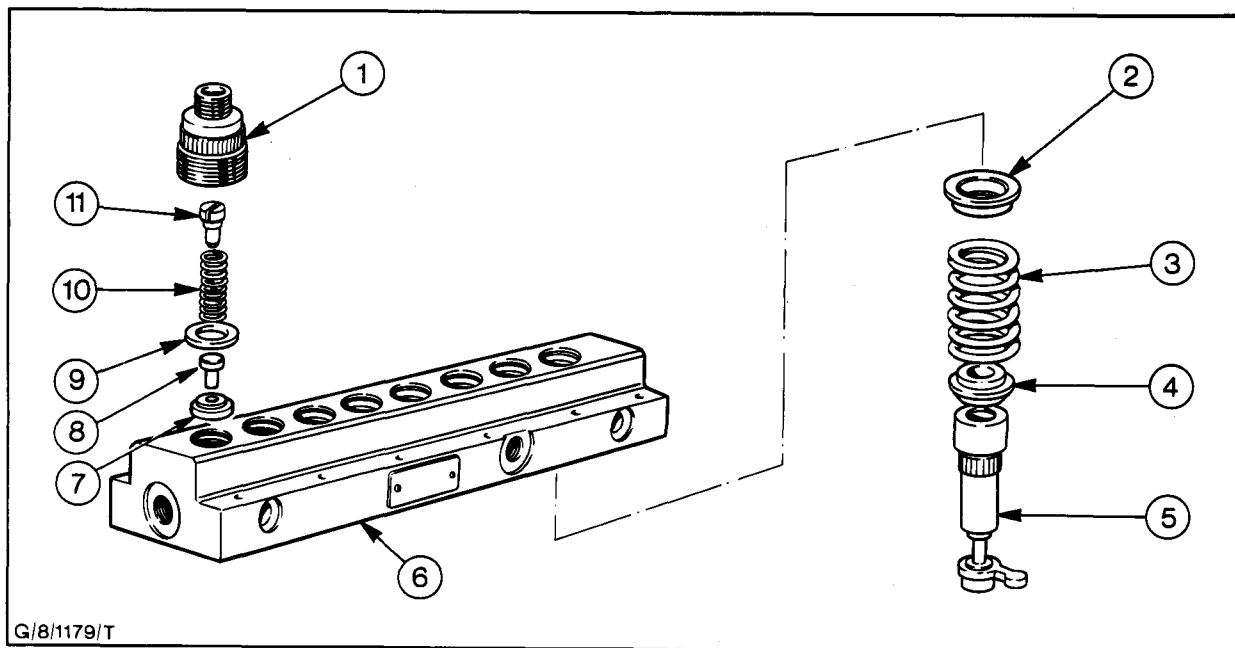

Fig. 40 - Pump Body
12. With the pump body inverted, withdraw the plunger, spring and spring seat assemblies, one at a time, from the barrels and place the components in the sectioned tray (Fig. 40).